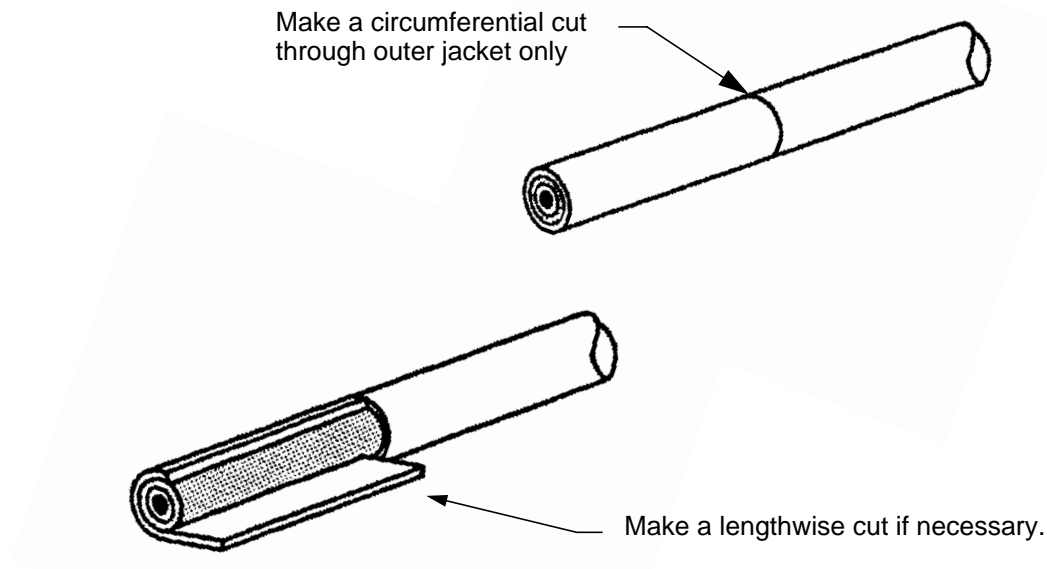

Figure 4 - Removal of Outer Jacket
Step 2. Determine the length of outer jacket to be removed and carefully make a circumferential cut through approximately 3/4 of the thickness of the outer jacket (see Figure 4). Take care to avoid nicking the braided shield when cutting the outer jacket. If using a shielded cable stripper, position the tool so that the cable sits in the "V" notch directly under the side blade, rotate the tool once around the cable, and remove the tool.
Step 5. If the outer jacket cannot be pulled off, make a lengthwise cut from the circumferential cut to the end of the wire (see Figure 4). Take care to avoid nicking the braided shield when cutting the outer jacket. If using a shielded cable stripper, place the cable so that it sits in the "V" notch of the stripper, directly underneath the front blade, and slide the tool lengthwise along the cable. If using a thermal knife, place the cable in a shield jacket stripping shop aid (ref. para. 4.2.4) and use the thermal knife to score the jacket.